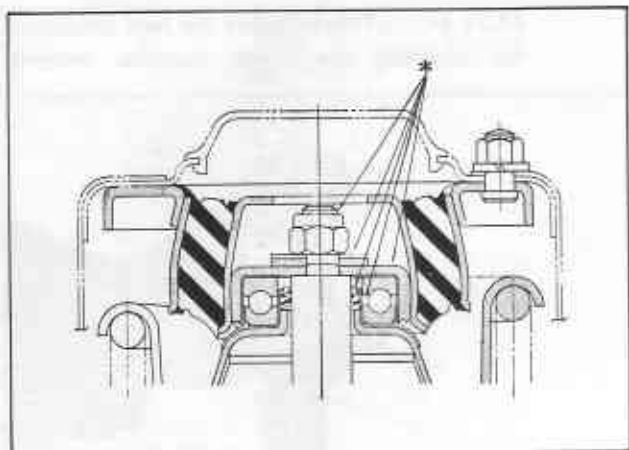

Fig. FA-33 Sectional view of strut mounting insulator
2. After reassembling the strut and spring assembly, apply grease thoroughly to the portions marked with \* as shown in Figure FA-33.